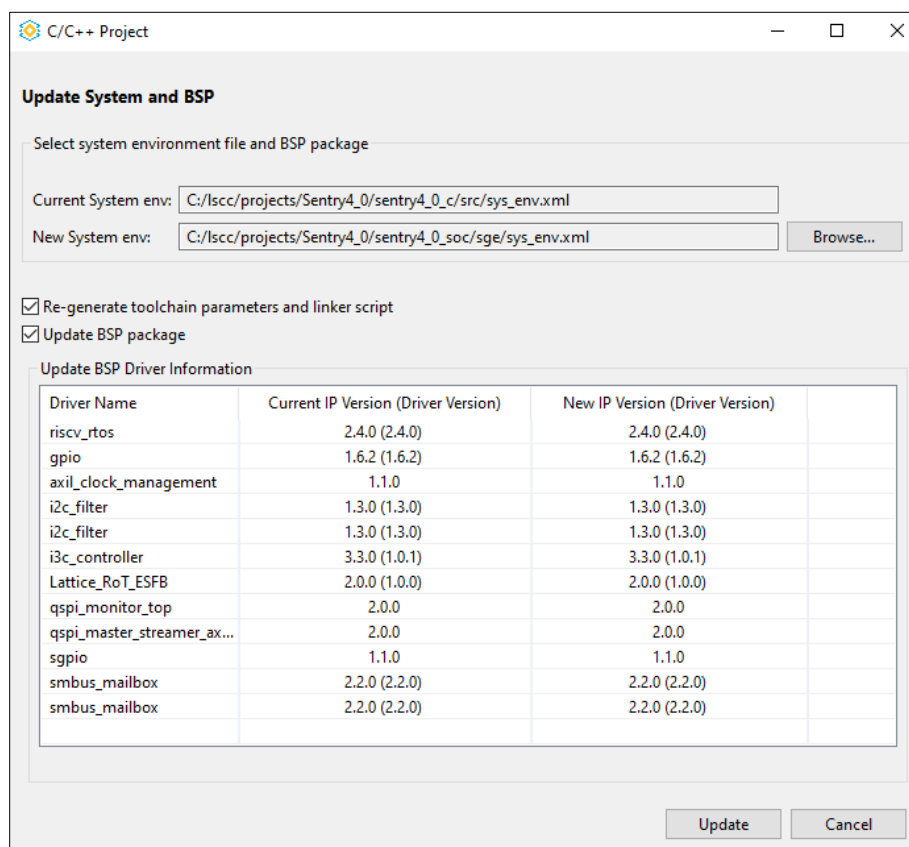

Figure 6.3. Update System and BSP
4. Check the checkbox next to **Re-generate toolchain parameters and linker script** (Figure 6.3).